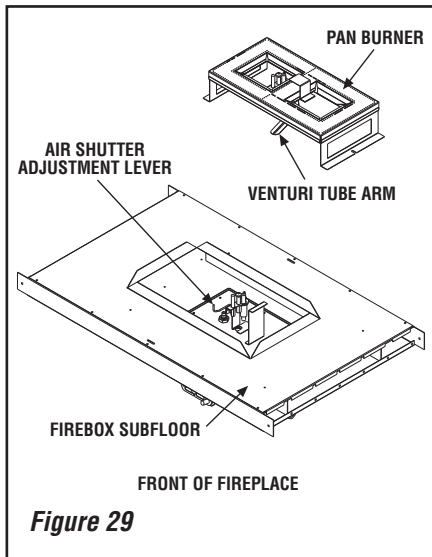

Figure 29
Step 3. Referring to **Figure 29**, remove the burner.
Ensure that the arm of the venturi of the burner is hooked onto the air shutter adjustment lever (refer to **Figure 29**). The primary air opening can be adjusted by rotating the adjustment lever from beneath the firebox floor. Refer to **Figure 26 on Page 22** for the recommended minimum primary air opening setting.